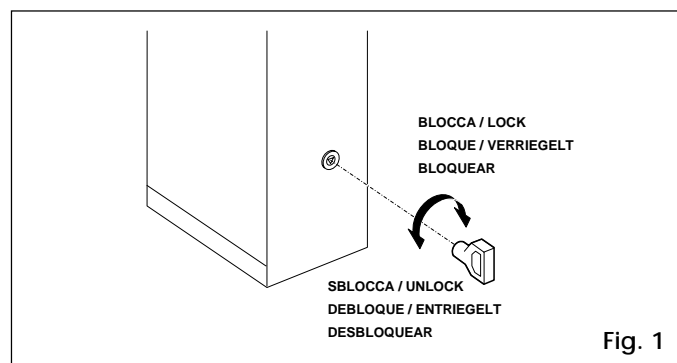
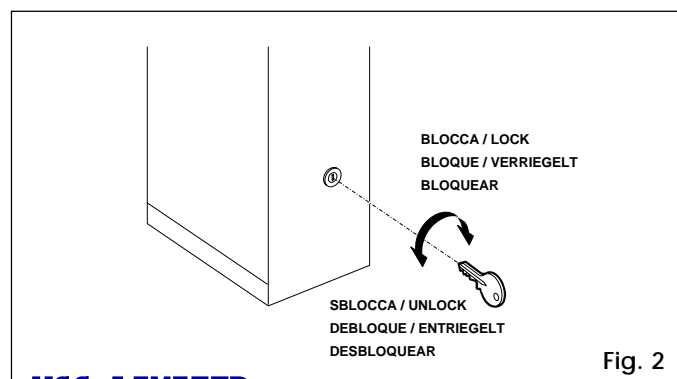

Fig. 1
Fig. 2
- Insert the standard key (fig. 1) or the personalised key (fig. 2) in the lock and **turn anticlockwise** by one revolution.